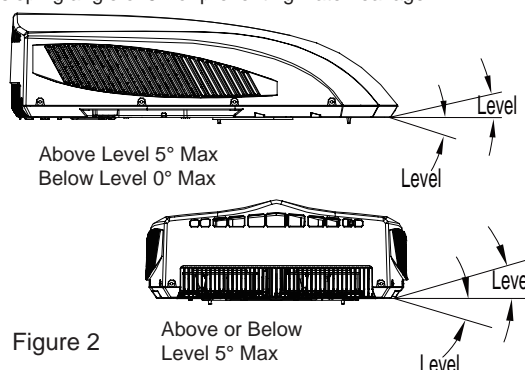

Figure 2
- 1.The roof top air conditioner must be mounted on a level plane from front to rear and side to side when the vehicle is parked on a level plane. Figure 2 shows maximum allowable degrees that the unit can be mounted above or below level.
1. The roof top air conditioner must be mounted on a level plane from front to rear and side to side when the vehicle is parked on a level plane. Figure 2 shows maximum allowable degrees that the unit can be mounted above or below level.